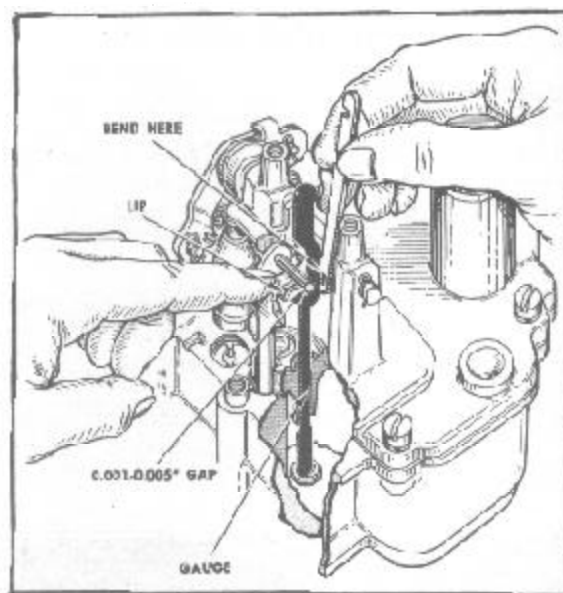

FIGURE 30
2. Insert metering rod gauge, J-1305 (Carter No. T-109-113) in place of rod. Be sure gauge seats in metering rod jet, Figure 30.